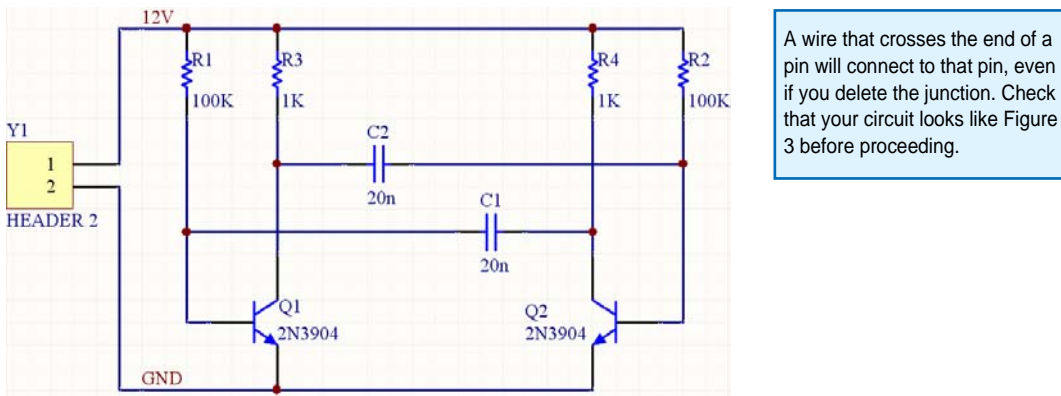

Figure 3. The fully wired schematic.
9. Wire up the rest of your circuit, as shown in Figure 3.